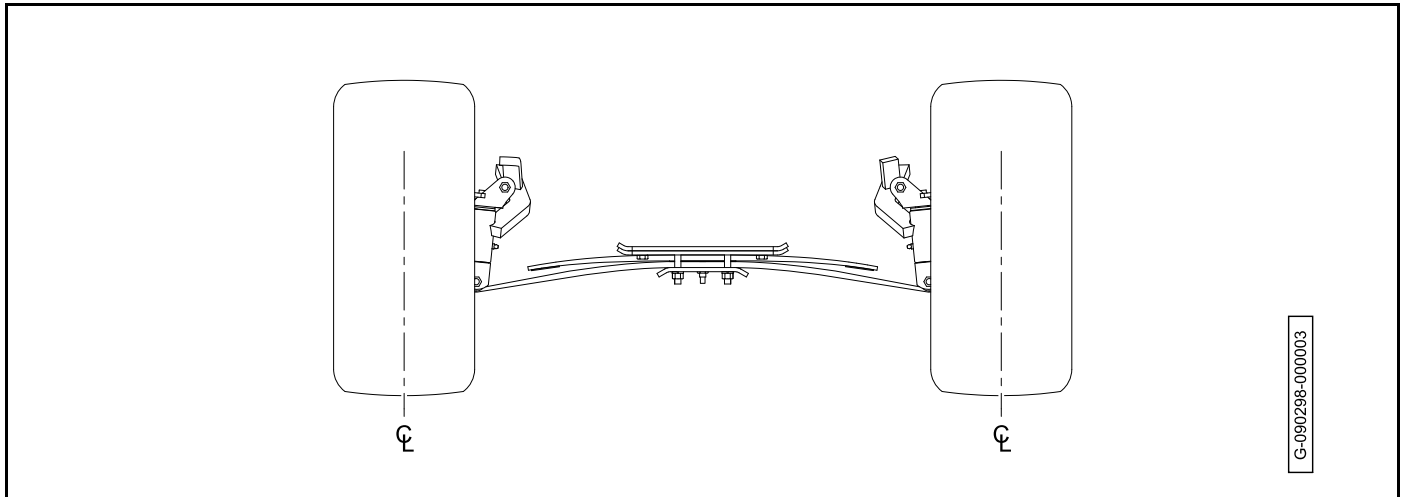

Figure 7-9 Check Toe-In
7. Measure the distance between the marks on the forward-facing surfaces of the tires (**Figure 7-9**).